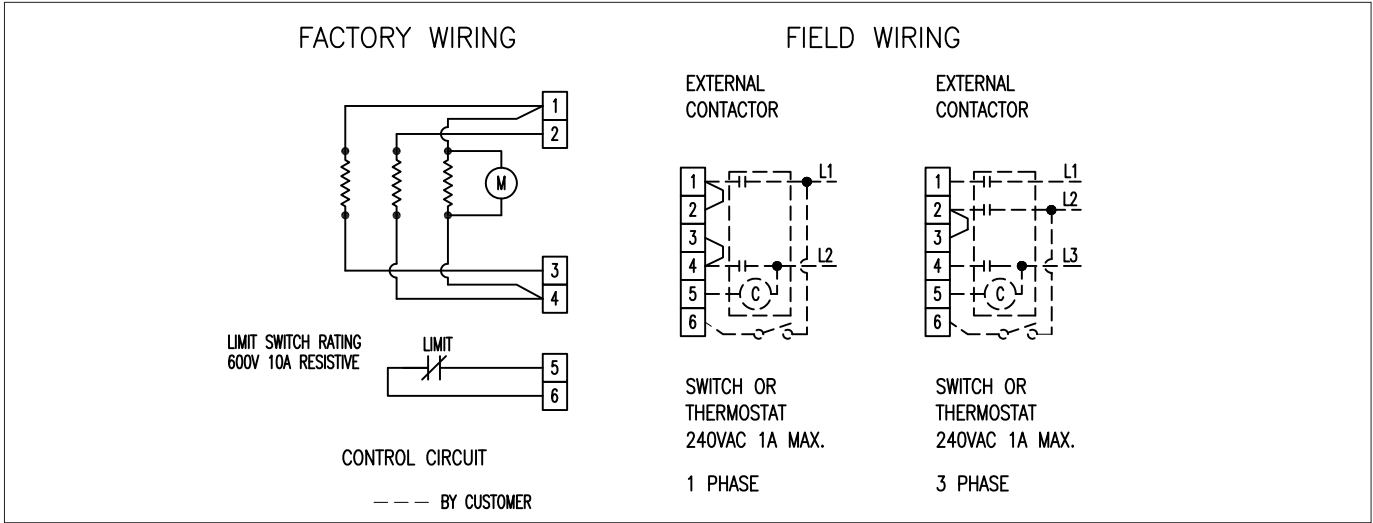

Figure 3E - GE Series 15-30 kW wiring schematic with hi-limit option. 208-600V models.
5. Models without a built-in contactor should have the limit switch wired in the control circuit of an external contactor, and for three phase supply, this control circuit should be connected to L2 and L3 which feed the centre heating element, refer to Figure 3E, page 7. The limit switch is rated 600 volts, 10 amps resistive.